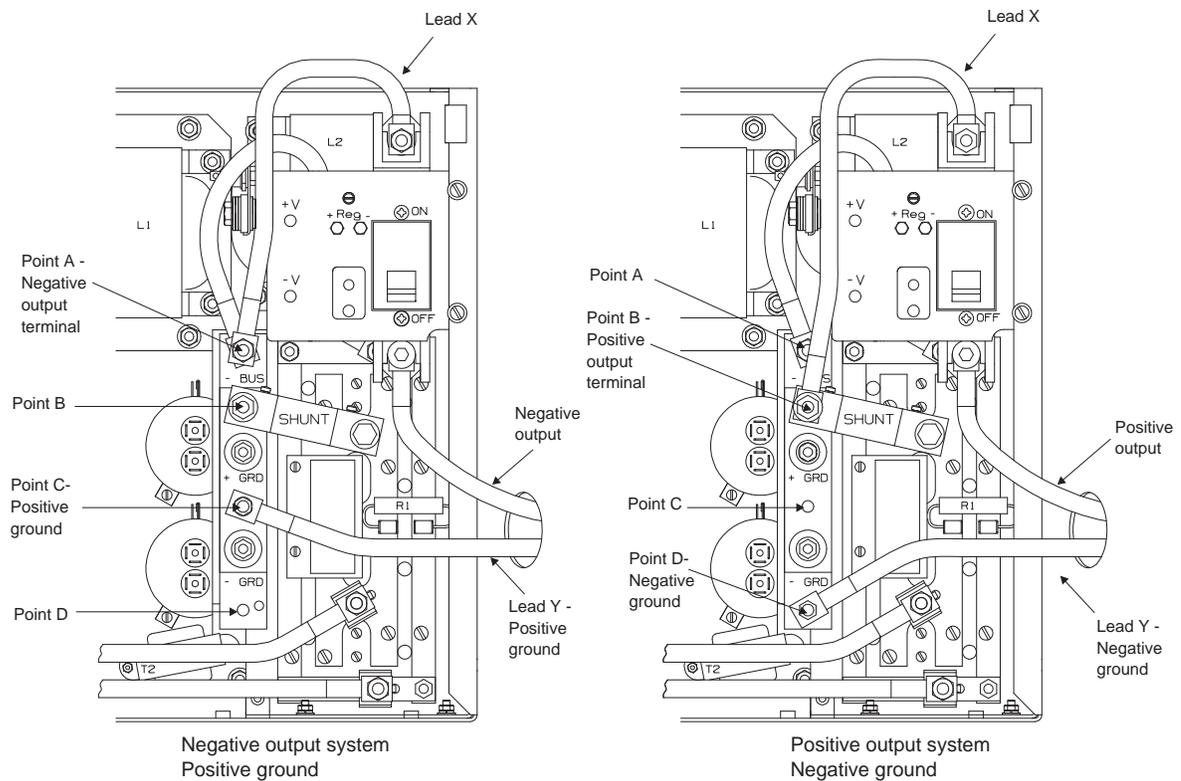

Figure 5-4: Output Polarity Conversion and Bus Bar Assembly of J85502C-1 Rectifier
6. Thread end of cable through right side of rectifier and terminate connector at the appropriate ground bus bar in the rectifier. The ground bus bar is positive for negative output voltage plants, and negative for positive output voltage plants. Torque connection to 120 in-lb. See Figure 5-4.
9. Thread end of output cable through right side of rectifier and terminate connector on **CBA1** circuit breaker in rectifier. Torque to 260 in-lb. See Figure 5-4.
In Figure 5-4, rectifier wiring appears as in the left drawing before the work is started, and appears as in the right drawing
7. The bus bar cable connections should now appear as in the right drawing in Figure 5-4. Install the label/shield plate at the bottom of **CBA1**.
To convert from **negative ground to positive ground**, reverse the work (X and Y connections) in the procedure above. Do not forget to swap the POS and NEG flags on the dc output cables and remove any List B markings. When the work is finished, the bus bar connections should appear as in the left drawing of Figure 5-4.
- See Figure 5-4. Verify that the cables are connected correctly for the desired output. Rectifiers that deliver -48Vdc output require **positive** ground. Verify that the dc output circuit breaker is open (off). For more complete discussion of related issues, see “Converting DC Output Polarity (Optional)” in Section 5.
4. Refer to Figure 5-4 and connect the test load between the + and – output buses marked on the rectifier.
- a. Before the **REG** fuse is installed in the plant controller, verify that battery voltage is **not** present between the rectifier output charge terminal and dc output return (see Figure 5-4).